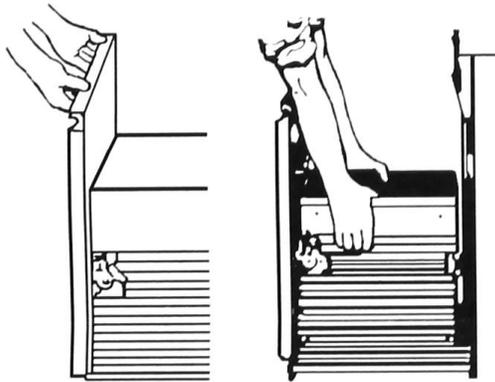

FIGURE 1
3. Remove the drawer. Grasp the handle and raise the front of drawer until it clears the drawer stops. Grasp sides of drawer and lift drawer out of compactor. See *Figure 1*.